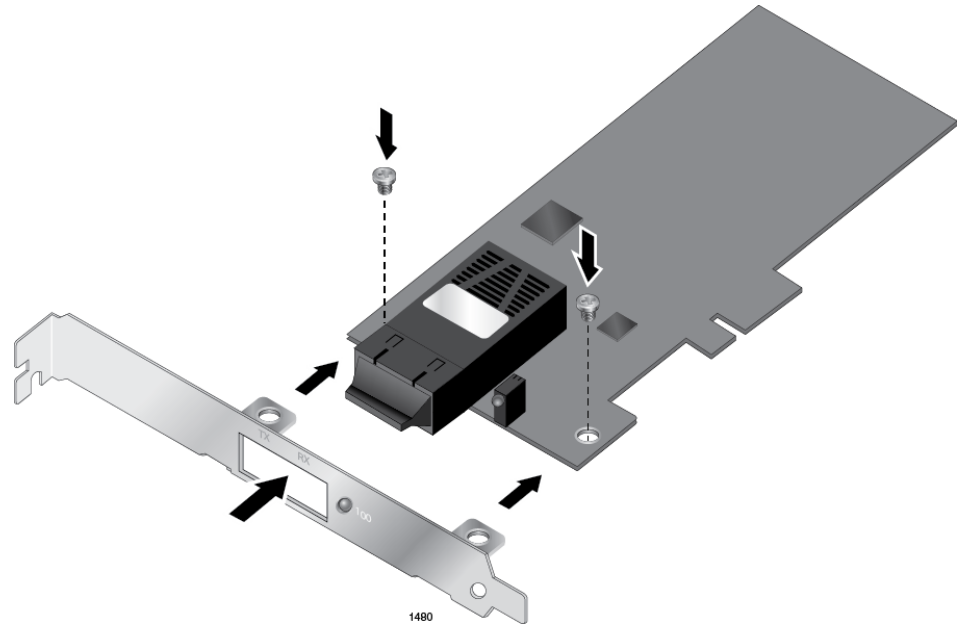

Figure 11. Fastening Screws onto Standard Bracket
2. Align the tabs of the standard bracket with the holes on the adapter card and fasten the screws onto the adapter card. See Figure 11 on page 33.